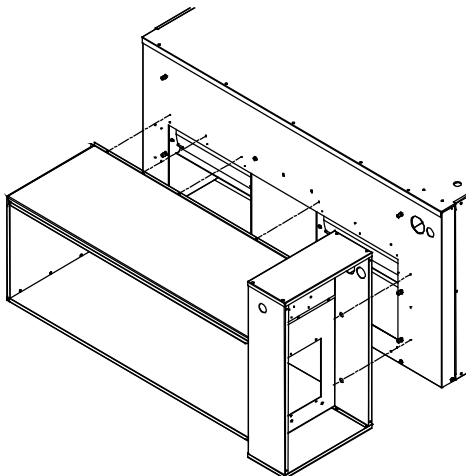

FIGURE 2
2. The heat kit attaches directly to the top panel (when viewed in the upflow position) of the air handler. Do not screw the heat kit into the duct flanges. Position the heat kit onto the air handler at the air discharge end with the control box orientated toward the airhandler front. See Figure 2.